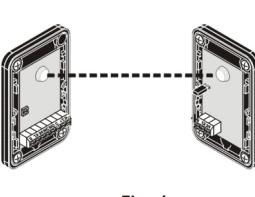
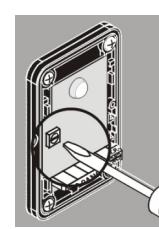

Fig. 6
Fig. 8
7 - After the adjustment (Fig. 8), fit the cover using the screws supplied (Fig. 13)
Align the transmitter and the receiver so that the beam is established and the red led (LR) goes off (Fig. 6 and Fig. 8).
Adjust the sensitivity with the trimmer on the receiver (Fig. 8).